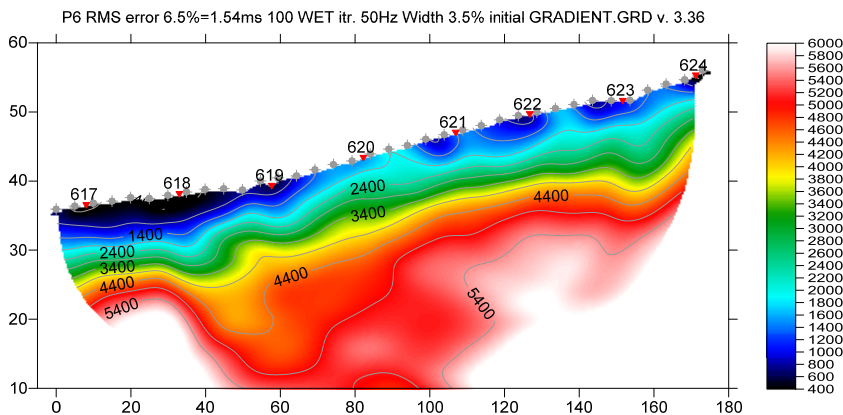
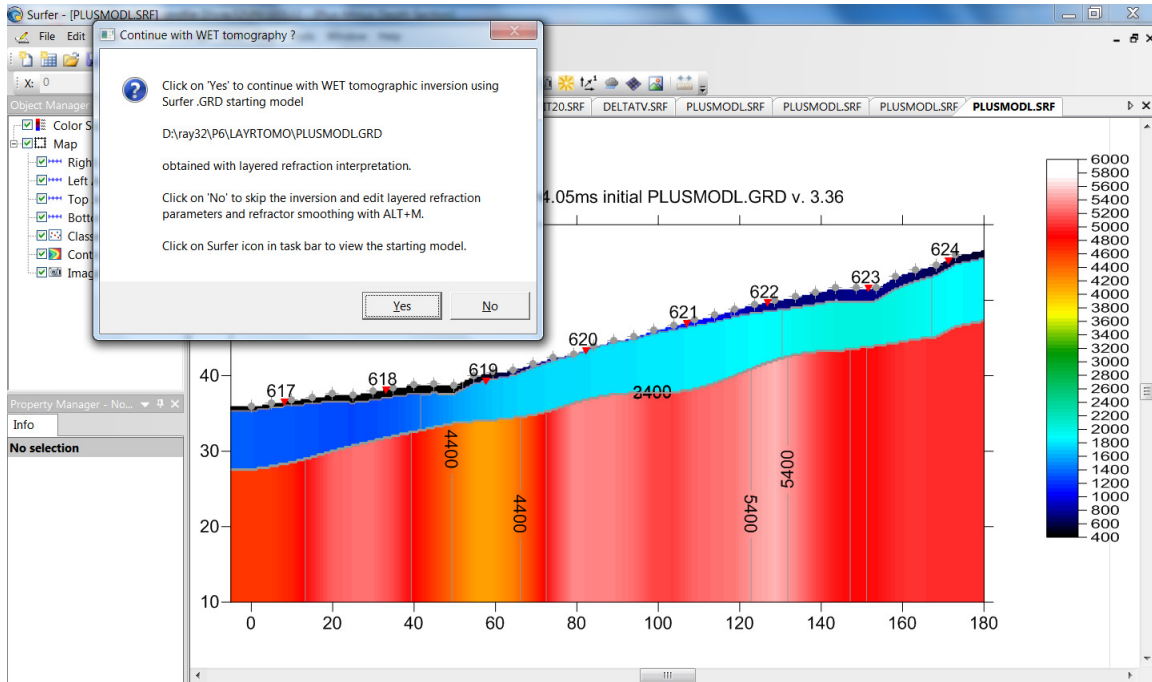
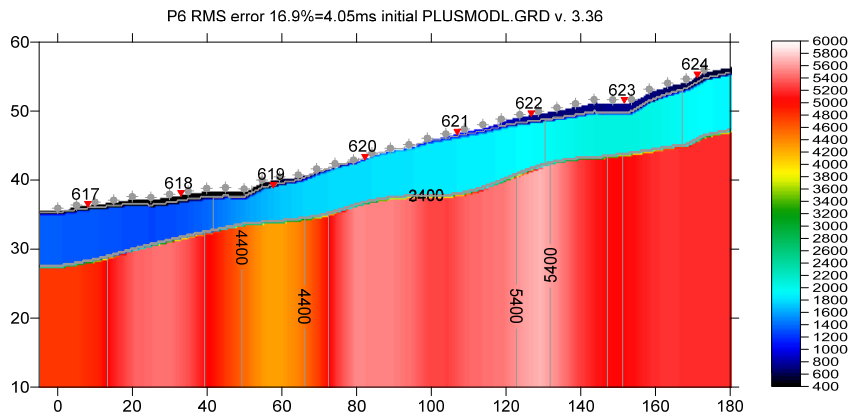

Fig. 8 : 2D WET output obtained with *WET Tomo|Interactive WET tomography* & 100 WET iterations & 1D-gradient starting model shown in Fig. 5
Fig. 11 : Plus-Minus method starting model shown in Surfer. WET continuation prompt is displayed on top of Surfer window.
Fig. 12 : Plus-Minus method starting model
- click button *Start tomography processing* to obtain WET output shown in Fig. 8 :
Fig. 8 shows a fault zone dipping at 45 degrees from offset 30m at topography to offset 60m in basement. This dipping fault zone is also visible in *Refractor|Midpoint breaks* and *Refractor|Offset breaks* displays (Fig. 15) after mapping traces to refractors (Fig. 16). These displays show raw traveltimes before doing any inversion. Instead of sorting your picks by common shot (Fig. 1 right) we now sort picks by common midpoint (CMP ; Fig. 15 left) and by common offset (Fig. 15 right) as described by Gebrande and Miller. See our DeltatV draft paper.
Fig. 9 : *Refractor|Shot breaks*. Shows fit between picked times (solid colored curves) and modeled times (dashed colored curves) for deepest refractor in Plus-Minus starting model (Fig. 12). Hollow squares separate direct wave from overburden refractor. Solid squares separate overburden refractor from basement refractor. Pick both branch points at same station for pinchouts (blue shot curve) or outcrops (red shot curve). Press ALT+L to map traces to refractors.
- select *Depth|Plus-Minus* to display Plus-Minus layered refraction starting model (Fig. 12). When prompted to continue with WET inversion press No button (Fig. 11).
- once the Plus-Minus model is recomputed and redisplayed in Surfer confirm prompt to continue with WET inversion (Fig. 11)
- now we obtain Smooth inversion WET output (Fig. 13) using the Plus-Minus starting model (Fig. 12).
- compare Fig. 13 with Fig. 6 and Fig. 14 with Fig. 8. We can see the same dipping fault zone as described for Fig. 8.
- smooth WET inversion is not dependent on the starting model when using full WET smoothing & Steepest Descent search method : Fig. 6 and Fig. 13 (20 WET iterations each) are similar to each other. Fig. 8 and Fig. 14 (100 WET iterations each) match each other even more closely.
- interactive WET inversion with 100 iterations (Fig. 8 and Fig. 14) takes about 2 minutes on a MacBook Air 2017 laptop using Intel Core i5-5350U processor with 2 hyper-threaded CPU cores at 1.8 GHz running Windows 7 64-bit Pro in Parallels desktop. This allows for a fluent workflow when varying WET inversion parameters.
Fig. 10 : Plus-Minus layered refraction method. Press ALT+L in *Refactor*|*Shot breaks* to map traces to refractors. Select *Depth*|*Plus-Minus* to display initial Plus-Minus model. Click No button in WET continuation prompt (Fig. 11). Press ALT+M in *Depth*|*Plus-Minus* window to bring up parameter dialog. Change Base filter width from default 10 to 4 stations. Press ENTER key to confirm parameters and redisplay Plus-Minus model. Now click Yes button in WET continuation prompt (Fig. 11).
Fig. 13 : Smooth inversion using Plus-Minus method starting model (Fig. 12). 20 WET iterations using Steepest Descent method & Gaussian update weighting & full WET smoothing. Compare with Fig. 6.
Fig. 14 : 2D WET output obtained with WET Tomo|Interactive WET tomography & 100 WET iterations & Plus-Minus method starting model shown in Fig. 12. Compare with Fig. 8.